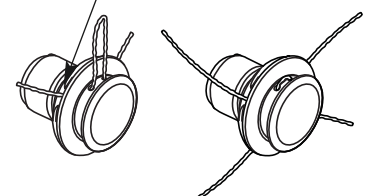

Fig. 17
5. Push and/or pull the line so that the line is snug against the hub and is fully extended through the positioning tunnels. (Fig. 17)